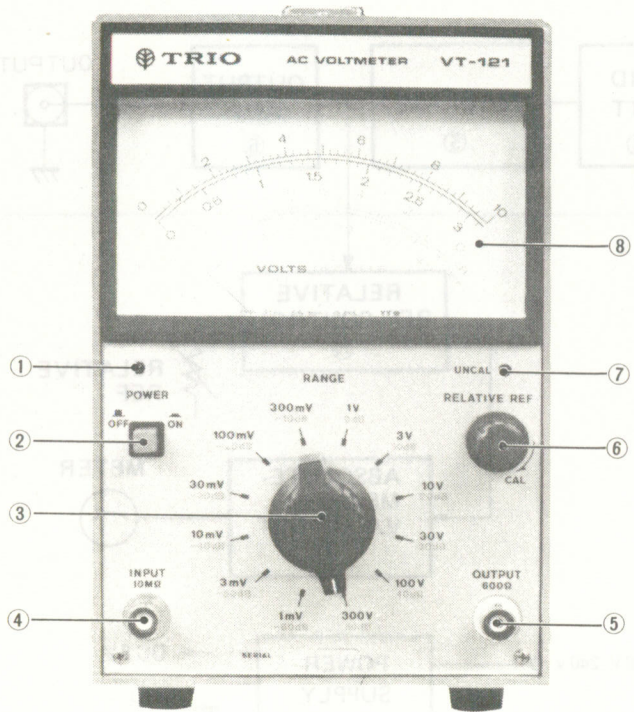

Figure 2 – Front Panel View.
1) Front Panel (see Figure 2)
Values in brackets [] are in the F version; Your VT-121 was precisely preset at the factory. However, it can be aligned through the adjust holes located on the right-hand side with leaving it housed in the casing, if required. In realignment, first adjust the line voltage to the voltage, use a precisely calibrated measuring instruments, and proceed as follows (also, see Figures 2 through 4).